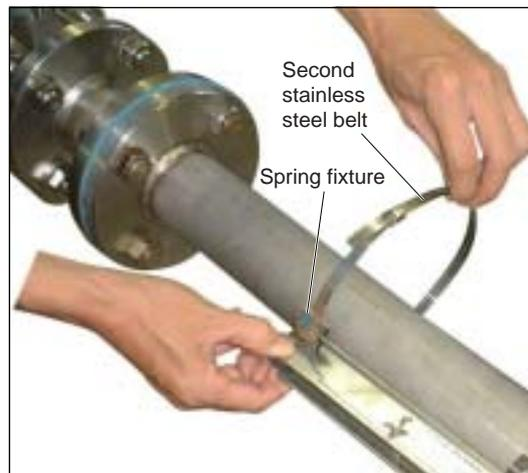

Fig. 3-7
(6) Adjust the frame so as to be in parallel with the pipe, put the spring fixture to the side of the frame as shown in Fig. 3-7, and tighten the stainless steel belt so that the frame will tightly be fitted.